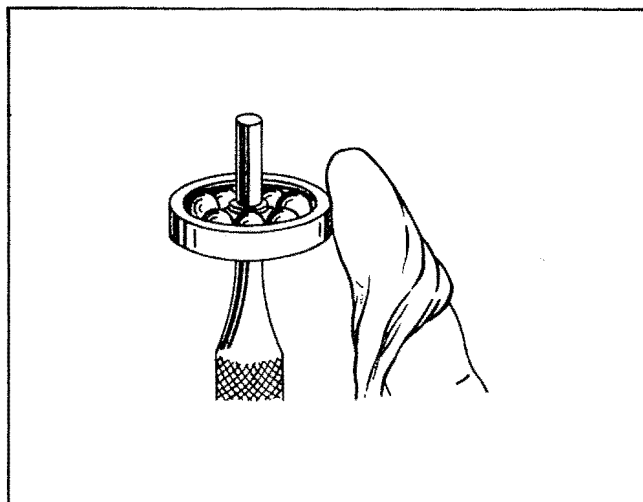

Figure 39
2. To test the bearing for smoothness and freedom, place the clean, dry bearing on a punch or other suitable pivot held vertically. With light pressure of the finger, slowly rotate the outer race. (See figure 39.) The bearing should feel smooth and free. Any feeling of grinding, grating, or roughness will indicate the presence of dirt, grit, or defects which will have to be removed. As a further check, lightly spin the outer race and note how it comes to rest. The outer race